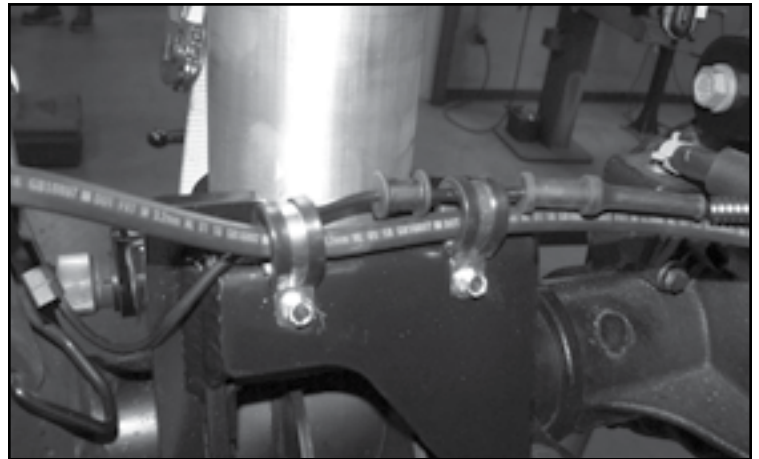

FIGURE 40 - STEP 25
25. Route the brake line hose and speed sensor cable together and mount them to the lower mount using the supplied rubber clamps and self tapping screws. **SEE FIGURE 40**